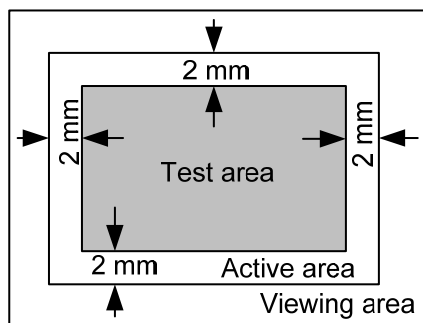

Fig. 10.1
- Test area is shown in Fig. 10.1